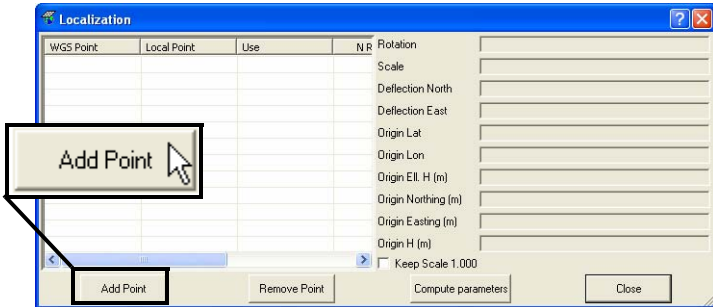

Figure 6-42. Add Point to Localize
3. To perform localization using these two sets of coordinates, click **Process** ► **Localization** or press **Shift+F8** to open the *Localization* dialog box. Click **Add Point** (Figure 6-42).